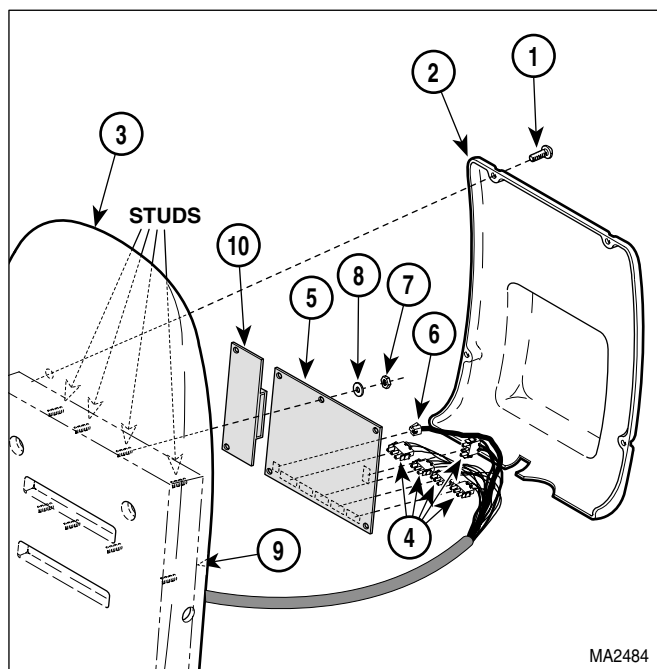

Figure 4-8 PC Control Board / Program PC Board Removal / Installation
- (1) Unplug power cord from wall outlet.
- (2) Remove four screws (1, Figure 4-8) and back cover (2) from plastic back section (3).
- (3) Tag and disconnect five wire harnesses (4) from PC control board (5).
- (4) Disconnect cord set (6) from PC control board (5).
- (5) Remove seven nuts (7) and lockwashers (8) from studs of back weldment (9).